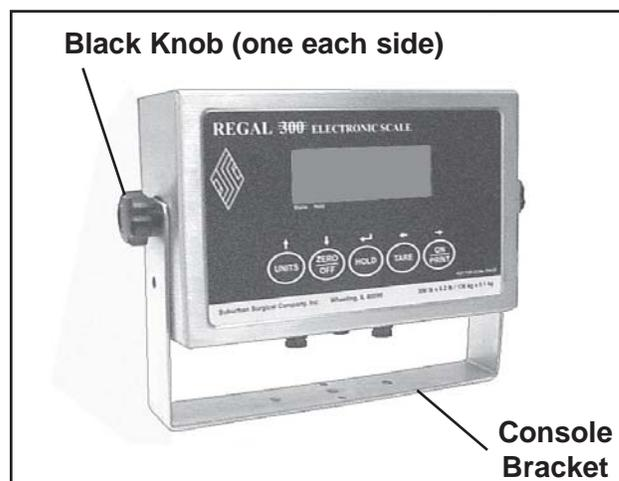

Figure 30. Removing the Console from the Console Bracket
3. Remove the two black knobs and remove the display console from the console bracket (Figure 30).
4. Mount the new display console into the console bracket (Figure 30) and secure with the two black knobs.
1. If your display console is column mounted, remove the two black knobs and lift the console from the console bracket (Figure 30). **Note:** It is not necessary to disconnect the cables from the console.